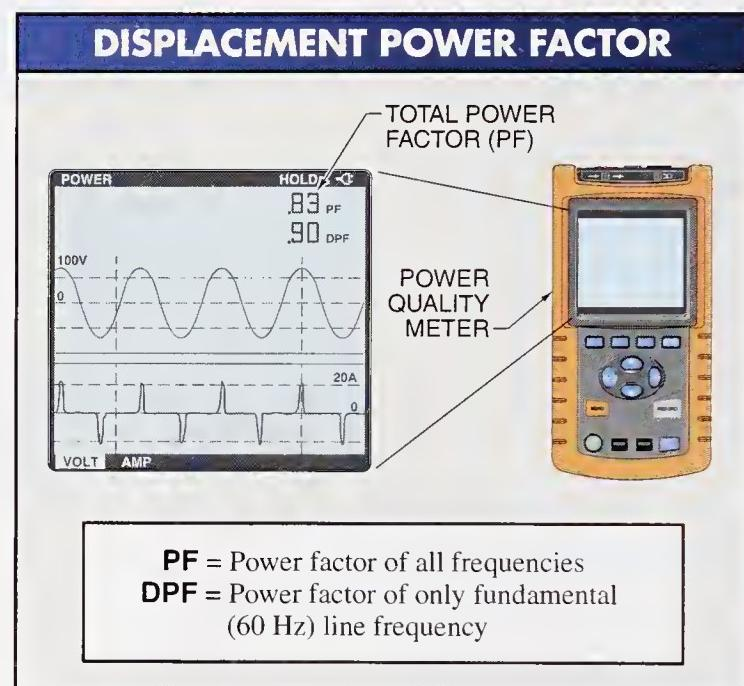

Figure 4-36. A power quality meter measures and displays power factor (PF) and displacement power factor (DPF).
Typically, utility company power factor charges are based on displacement power factor (DPF) values and not power factor (PF) values. A power analyzer meter measures and displays the PF and DPF of a circuit being tested. See Figure 4-36.